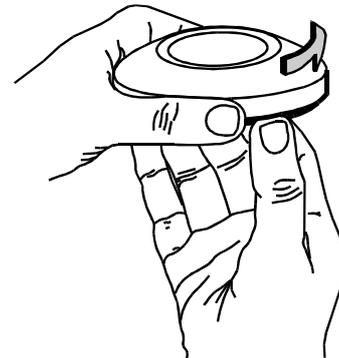

Figure 4-1. Removing the Cover
- A. Remove the front cover as shown in Figure 4-1.